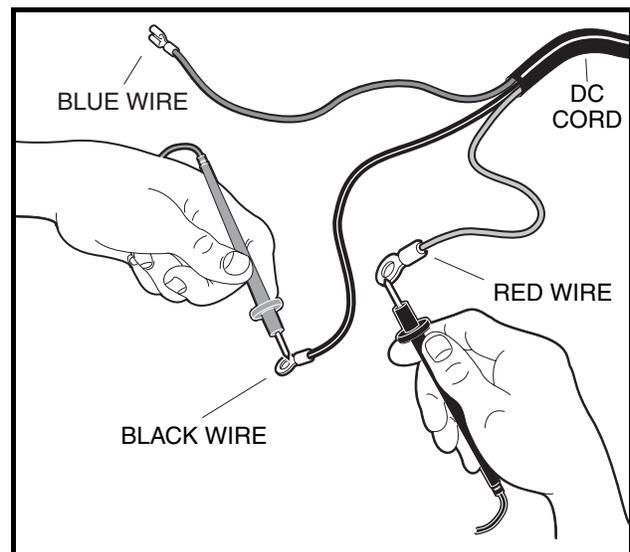

Figure 4-12 DC Cord Test – Probes Reversed
7. Reverse the test probes and check the DC cord again (**Figure 4-12, Page 4-14**). The circuit should show continuity in only one direction.